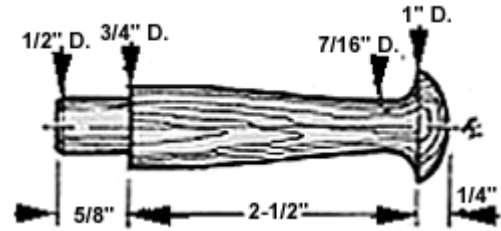

Figure 1. Peg Dimensions
Step 4: Make the Pegboard (C)
1. Rip the pegboard (C) to a width that will fit snugly in the notches.
2. Cut the pegboard (C) to a length of 30".
6. Turn the pegs according to the profile shown in **Figure 1**, or purchase pre-made pegs with these dimensions.